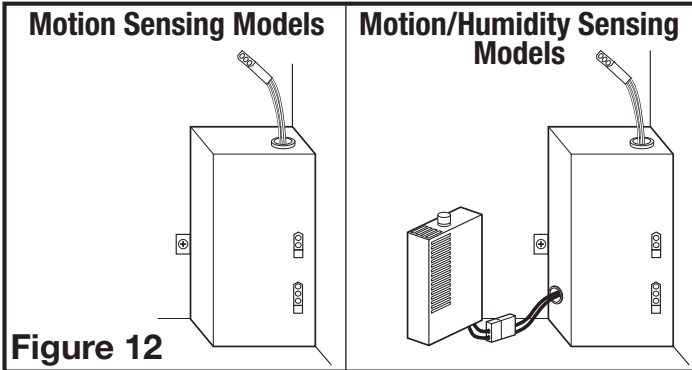

Figure 12
- 3b. **MOTION SENSING AND MOTION/HUMIDITY SENSING MODELS:** Plug the fan's 2 pin and 3 pin quick connect motor cords into the receptacles located on the side of the wire compartment. Plug the 3 pin quick connect cord from the motion sensor on the grill into the receptacle coming out of the top of the wire compartment. These cords will only fit one way into the receptacles (Figure 12).